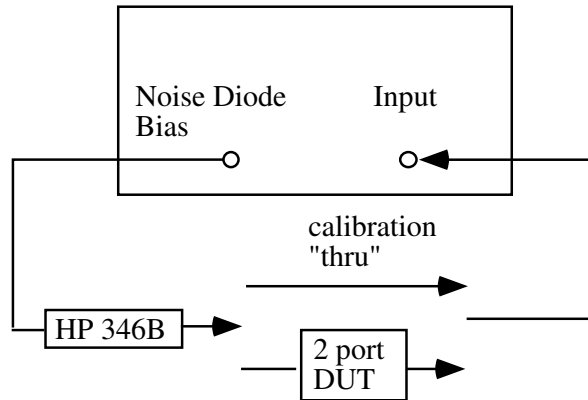

Figure 3.1: Noise Figure Analyzer setup
1. Connect the equipment as in Figure 3.1 for calibration. A “thru” connection should be used between the HP346B Noise Diode and the 8973A input. Use the shortest possible connection, which will be an N-type male-to-male adapter (or “barrel” adapter). The calibration procedure measures and stores the noise figure of the 8973A at each frequency. The stored values are used to subtract the noise contribution of the 8973A from measurements taken with the DUT in place.